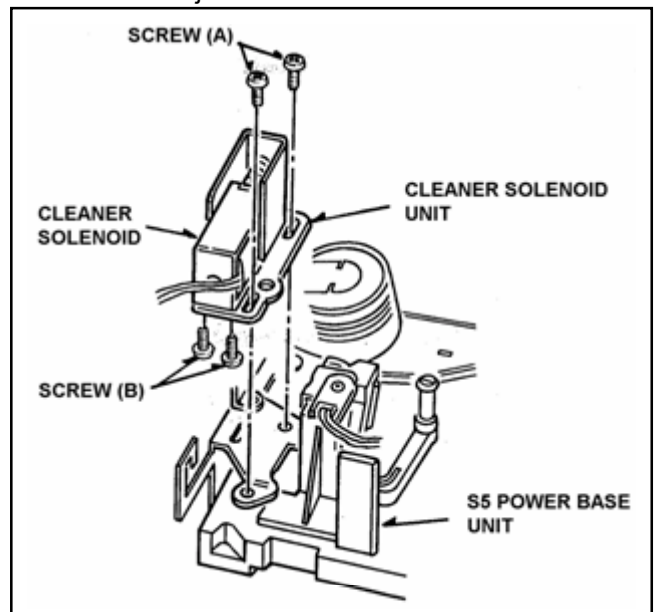

Figure 5-22-1
2. Unscrew the 2 screws (A) and remove the Cleaner Solenoid Unit as shown in Figure 5-22-1.
3. Unscrew the 2 screws (B) and remove the Cleaner Solenoid as shown in Figure 5-22-1.